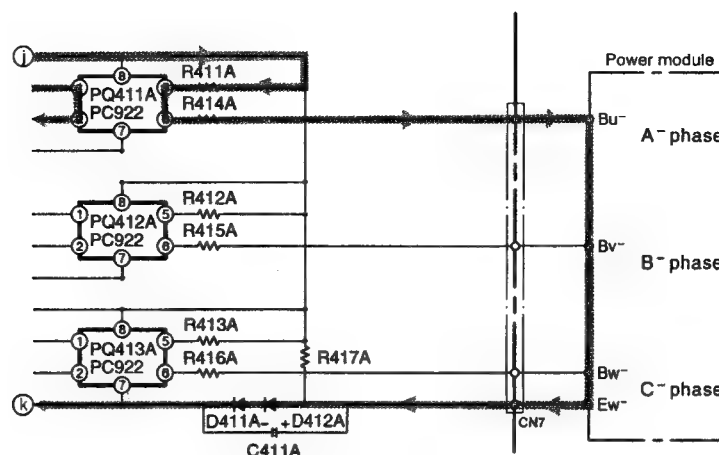

Fig. 8-1
Fig. 8-1 shows the lower arm drive circuit.
- When pin ②⑥ of the micro computer goes "HI" → "LO", a photocoupler between PQ411A pins ① and ② turns on and current flows to terminal ①→R411A→PQ411A→R414A→power module's Bu⁻ terminals→Ew⁻ terminals→D412A→D411A→terminal (k) and drives the lower arm transistors. (Fig. 8-1)
- The signals which turn on or off according to the position detection signals are output from pins ②⑥ ②⑦ ②⑧ of the micro computer in the same way as in the upper arm drive circuit and are input to pins ② of photocouplers PQ411A–PQ413A.